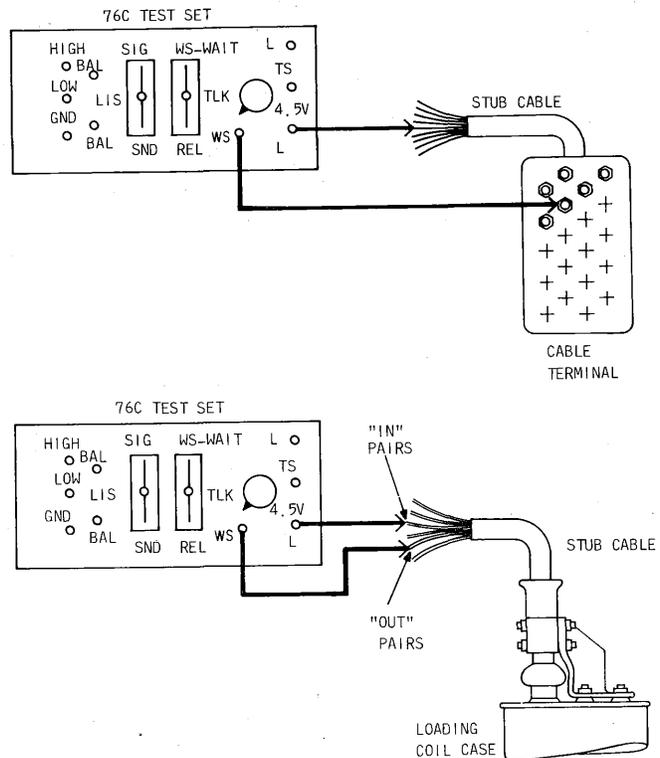

Fig. 7—Identifying Conductors in Short Dead Cable Using 76-Type Test Set
3.02 Two typical uses of this method are illustrated in Fig. 7.